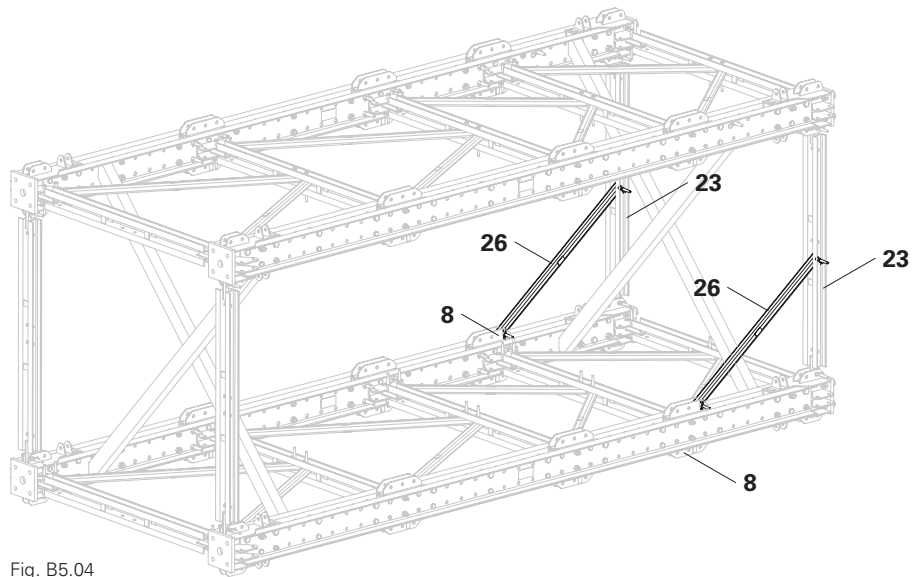

Fig. B5.04
1. On each side, insert 1x diagonal strut VST (26)\* into the horizontal ledger VST 200 (23).
2. Connect the diagonal struts VST (26) to the bracing connector VST (8) and horizontal ledger VST 200 (23) using 1x fitting pin  $\varnothing$  21 mm (9) each. (Fig. B5.04)